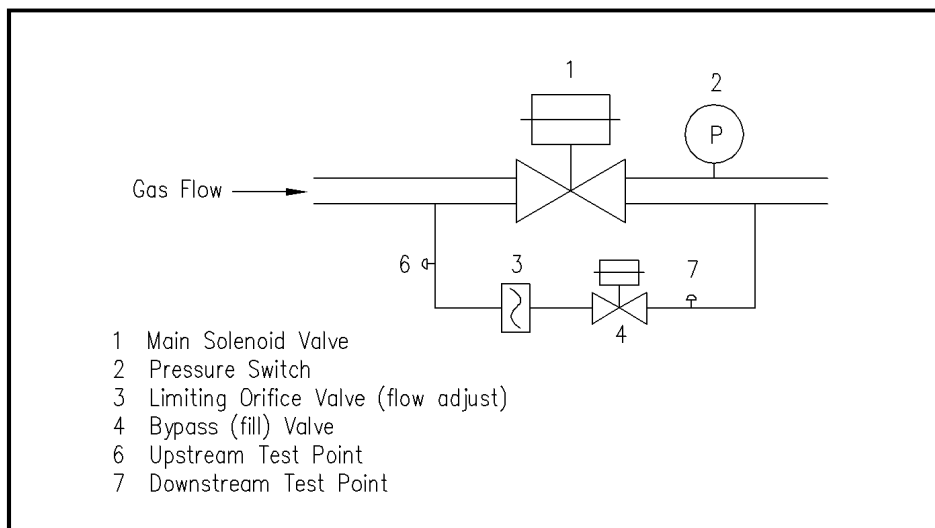

Figure 1 – Gas Train Components
7. Using a manometer, check the upstream inlet gas pressure (refer Fig. 1 position 6), to confirm it is as per the designed operating pressure rating. Record the result.
8. Check the setting of the *Pressure Switch*, (refer Fig. 1 position 2), and adjust the setting to 50% of the inlet pressure.
10. Using a manometer, check the downstream gas pressure (refer Fig. 1 position 7). This reading MUST BE zero. If it is more than zero, bleed off the gas remaining in the downstream pipework (see safety alert above regarding ventilation).
11. Leave the manometer connected to the *Downstream Test Point* (refer Fig. 1 position 7).
12. Check that the *Limiting Orifice Valve* (LOV) is fully closed (refer Fig. 1 position 3).
13. Turn keyed power *ON Switch (1)* to turn on power (switch will spring return when released).
14. The *Mains On (2)* indicator should now be illuminated. The *Start/Operation (3)* indicator should not be illuminated.
15. For systems fitted with 24 hour, 7 day *timer (7)*, program the timer by following the timer instruction sheet supplied.
18. Push and hold the *Start/Operation Pushbutton (3)* and SLOWLY open the LOV (refer Fig. 1 position 3) to the minimum flow setting. This minimum flow setting MUST BE LESS than the smallest appliance flow connected. This is necessary to ensure the system cannot be restored when an outlet has been left open. Observe the manometer reading and ensure that the
20. Press and hold the *Start/Operation Pushbutton (3)* until it is illuminated - this signals that the piping is gas tight. The Main Solenoid Valve (refer Fig. 1 position 1) will be energized.
22. Release the *Start/Operation Pushbutton (3)*.
2. When each interlock is tripped the Main Solenoid Valve (refer Fig. 1 position 1) should shut off and the ACCU-TEST *Mains On (2)* and *Start/Operation (3)* indicators should both be off.
- To prove that the LOV (refer Fig. 1 position 3) has been set to below the lowest gas flow outlet connected to the system.
1. Shutdown the ACCU-TEST system by pressing the *OFF Pushbutton (4)*.
4. Fit a manometer to the Downstream Test Point (refer Fig. 1 position 7).
5. Turn on the keyed power *ON Switch (1)* and attempt to charge the downstream gas piping by pressing the *Start/Operation Pushbutton (3)*.
7. If the LOV (refer Fig. 1 position 3) has been set correctly the gas piping will not be able to be pressurised.